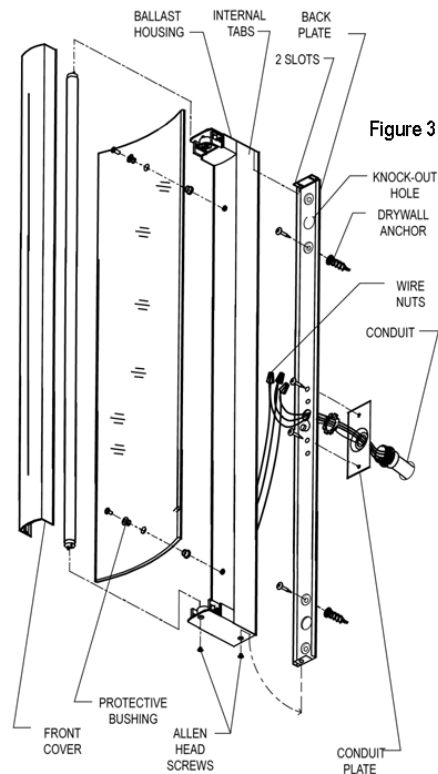

Figure 3
- 11) Screw on INNER GLASS ASSEMBLY. For IA and IS versions insert LAMP GUARD into INNER GLASS ASSEMBLY (fig. 3).
- 2) Unscrew AIRCRAFT CABLE ADJUSTER from TOP COVER and discard, retain HEX NUT (fig. 3).
(FIG. 3)
E. ELECTRICAL CONDUIT MOUNTING (Fig. 3)